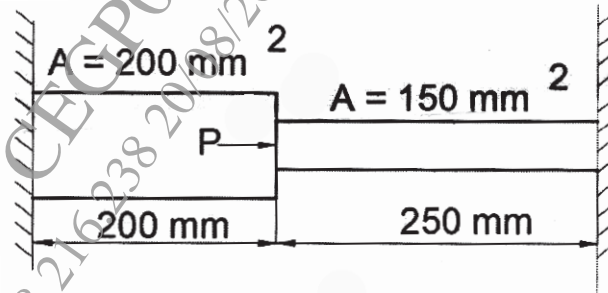

Figure 1: Qu 5
**Q5)** The stepped bar shown in figure 1 is loaded axially by load  $P = 50\text{kN}$ , the modulus of elasticity of the bar is  $0.7 \times 10^5 \text{ N/mm}^2$ . Determine nodal displacement, elemental stress and reaction at support. [10]